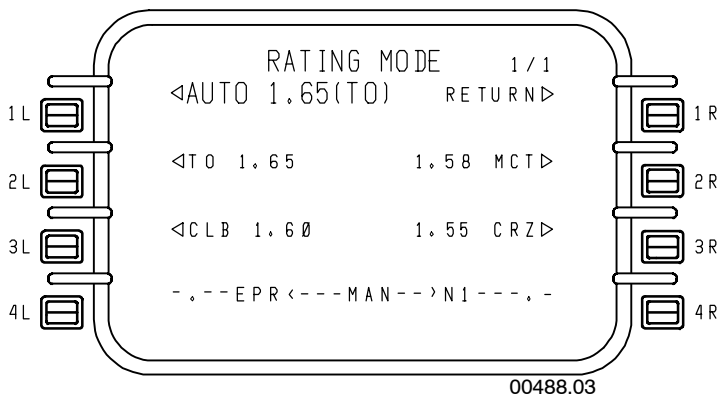

Figure 5-51
- **RATING MODE 1/1** - Figure 5-51 is used to set the rating mode. The active mode is displayed in large font.